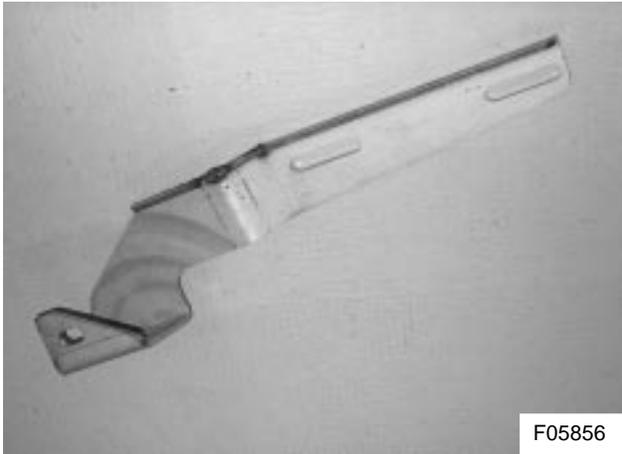

Figure 16: Additional support bracket VH 10748694.
- 1) Loosen and remove the top nut of the right-hand rear most muffler rubber isolator mount. Fit additional support bracket VH 10748694 (see Figure 16) to the muffler bracket as shown in Figure 17. Make sure the bracket does not interfere with the cooling system tubing. If necessary, reposition the clamps securing the cooling system tubes.